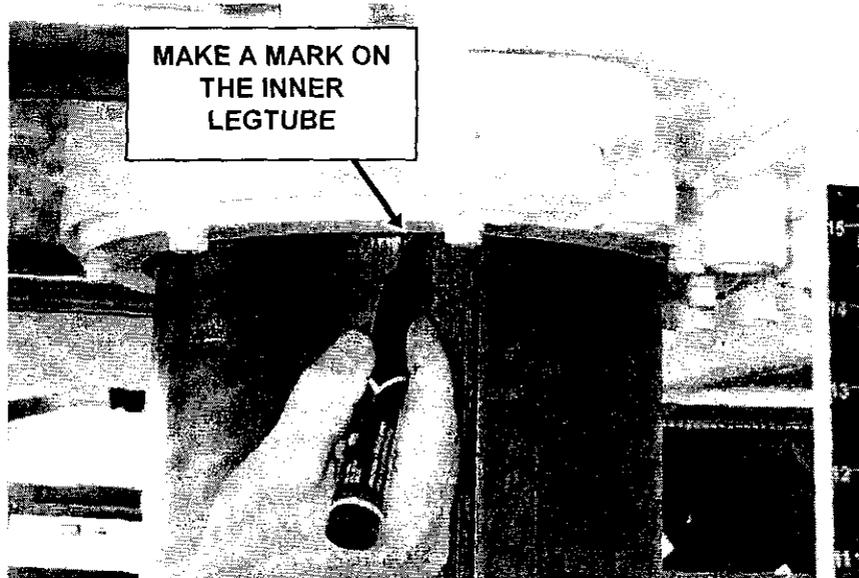

FIGURE 26
7. When the rear leg tube(s) stops lowering, use a pencil or marker and mark the point on the inner leg tube where it intersects the outer leg tube. On a four track machine, this can be done on either one of the rear leg tubes (figure 26).
8. Start lowering the front leg tubes so that the machine seems to teeter-totter on the drum. Continue to lower the front leg tubes until the interlock indicator light comes on (figure 26).